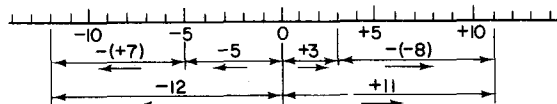

Fig. 1.18
- To find the value of  $-5-(+7)$ . From Fig. 1.18 it will be seen that  $-(+7)$  is the same as  $-7$  and hence,
- To find the value of  $+3-(-8)$ . From Fig. 1.18 it will be seen that  $-(-8)$  is the same as  $+8$  and hence,